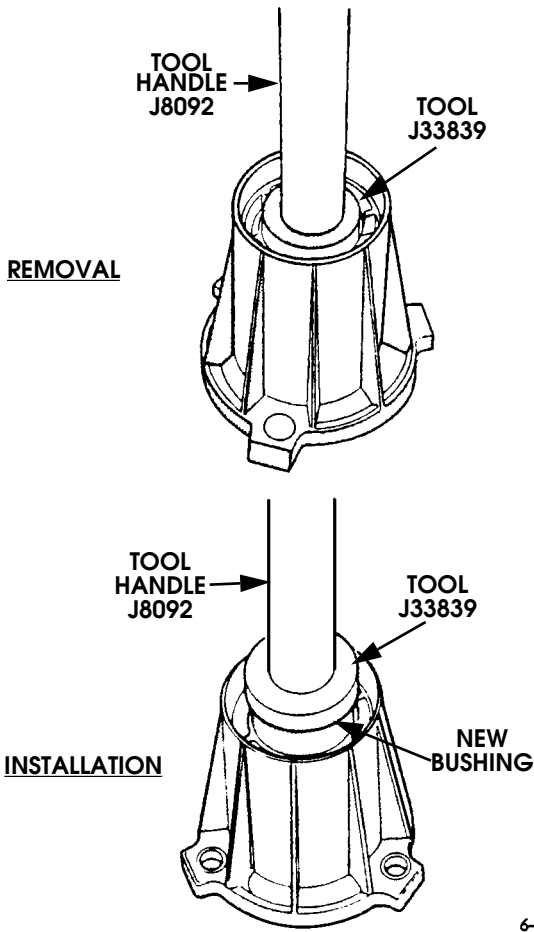

Figure 5-129: Extension Housing Bushing Replacement
2. Drive out old bushing with tool handle J8092 and tool J33839 (Figure 5-129).